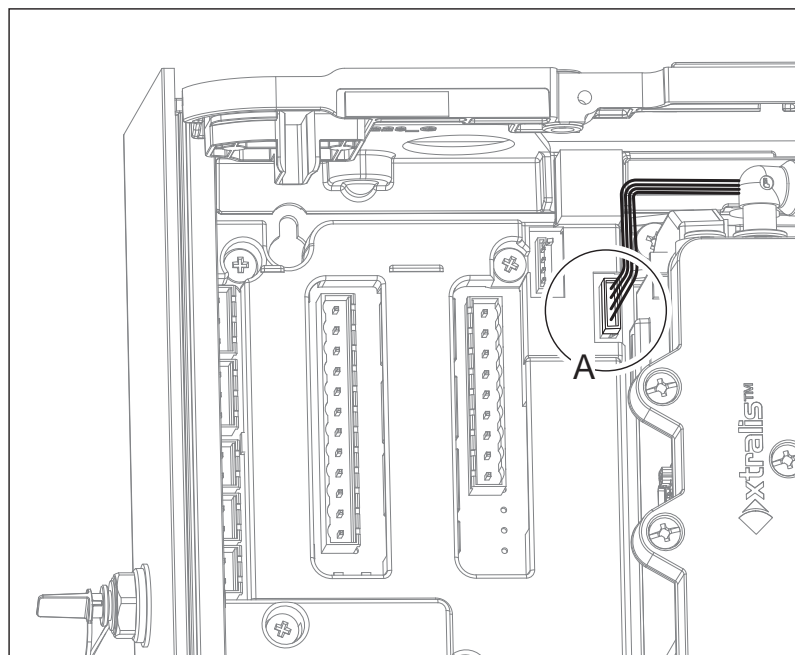

Figure 7-29: Remove the smoke sensor cable
7. Disconnect the smoke sensor cable (A) (Figure 7-29).